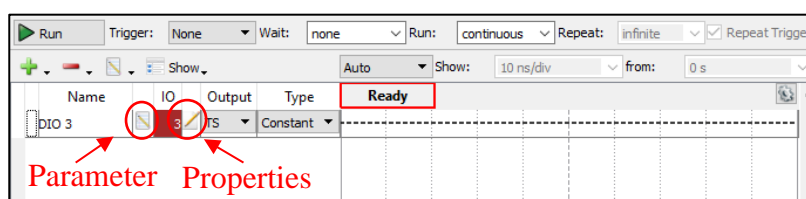
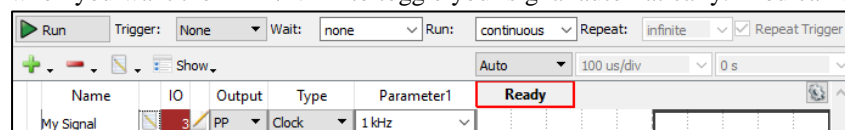

Figure 8: Default Signal
Figure 9: Clock Signal
**Setting up a Signal:** Configure Digital I/O signal 3 into an output signal by selecting the green +, signal, DIO3, and Add. You should now see something similar to Figure 8. Now select parameter (see Figure 8), type a name into the text box such as My Signal, and press ok. It is a good habit to always name your signals. Now select Show, Parameter 1 to add the Parameter 1 box as seen in Figure 9. Notice that the box under IO has the number of the signal wire (in this case 3) and the color. Use this to verify you have connected the wires as you intended. To remove a signal, select the signal and press the red -.
**Signal Types (Constant and Clock):** Use PP (push/pull) as the output setting. This setting will assure that the signal will only output 0V or 3.3V. You can configure the signal by changing the type and changing parameter1. Constant and Clock will be used most often used signal types in 3701. You can click on properties button to see more ways to configure each type. Notice that the line in the middle of Figures 8 and 9 are thicker than what you might see on your screen. To change the thickness of the line for easier viewing, right click on the signal line and change the plot width (plot width in Figures 8 and 9 are set at 2).